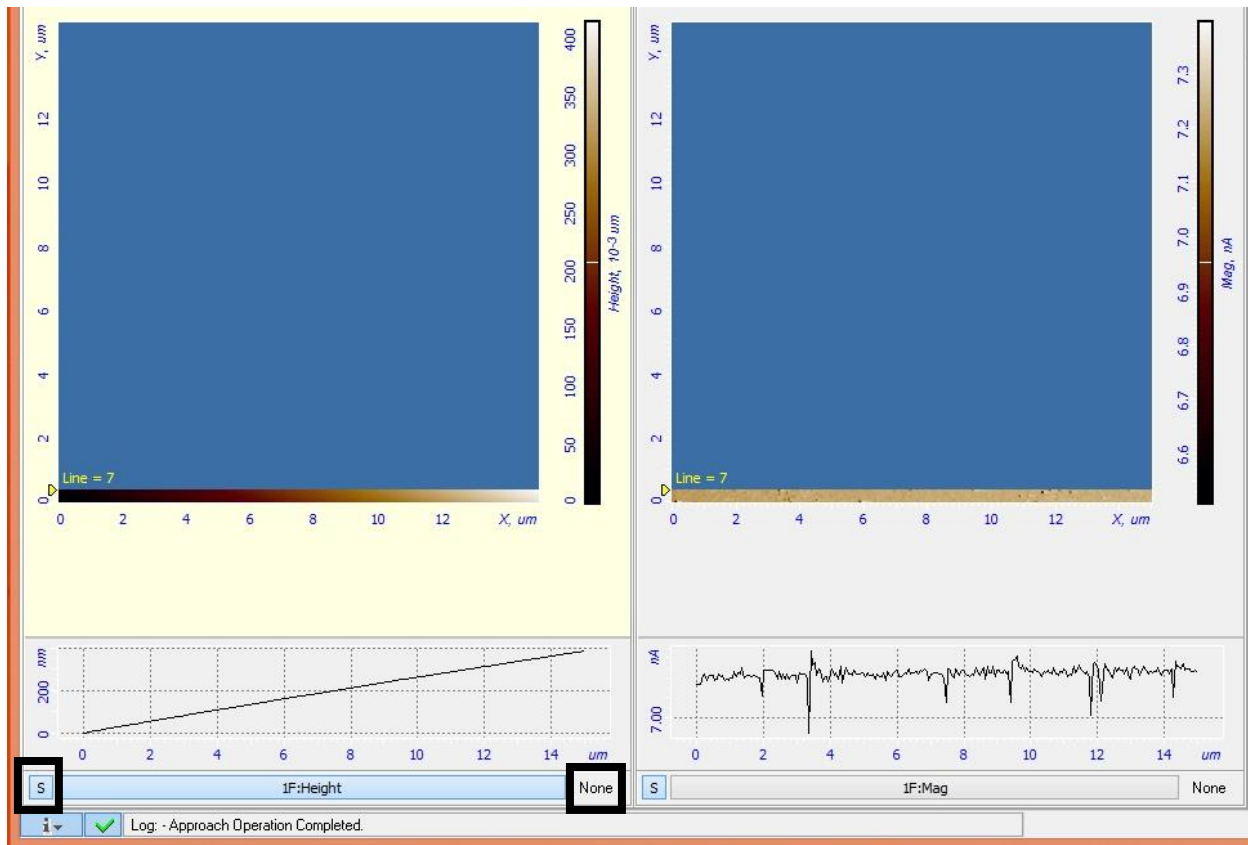

Figure 22: start of scan
- Its help full to pull up a cross sectional view of the scan click the “s” button in the bottom left of the height scan screen (Figure 22).
- Click "None" in the bottom right of the height scanning screen this will activate a drop down menu and select the desired correction (Figure 22).